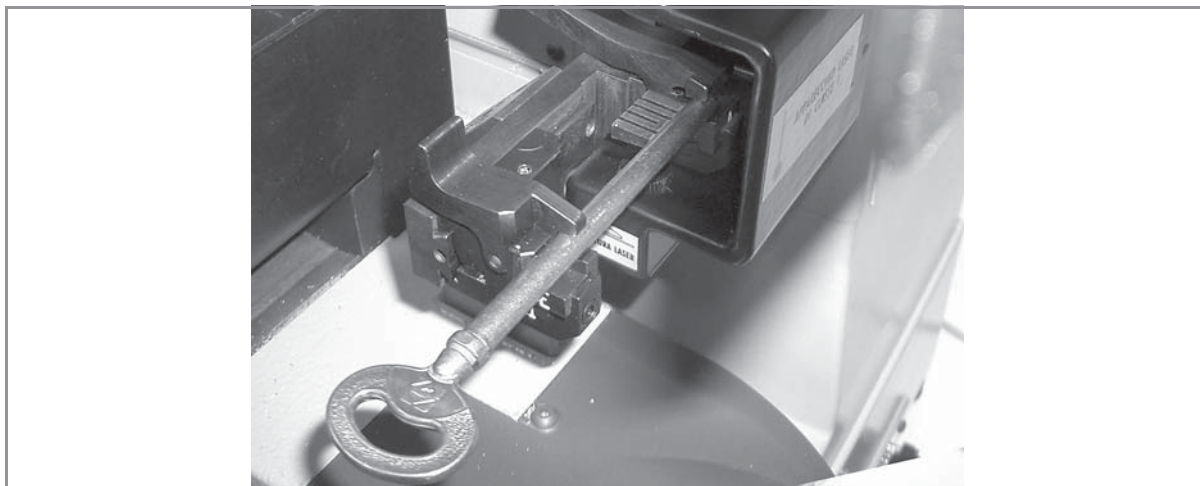

Fig. 68
**NOTE:** Jaws F or G could also be used (see JAWS A-E / A-F / A-G on page 46. The rear stop is not necessarily up against the side of the jaw (fig. 68).